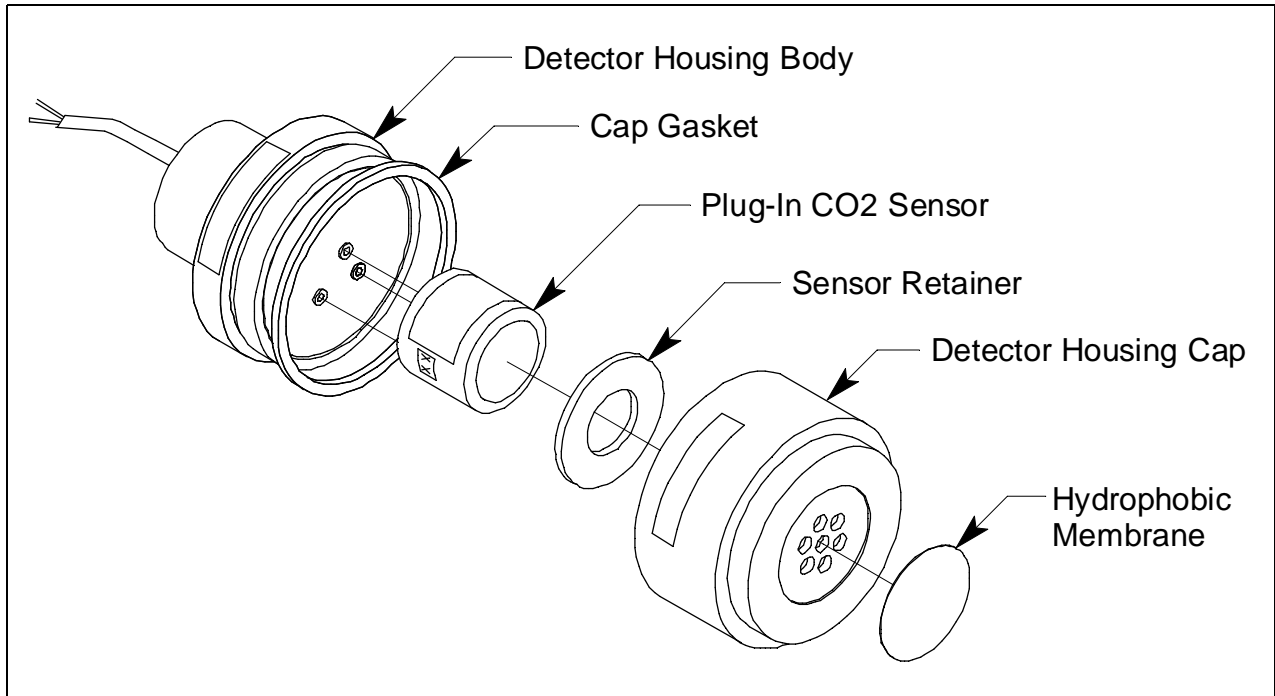

Figure 2: CO₂ Detector Component Location
2. At the monitoring site you select, hang or mount the junction box with the detector facing down (see Figure 2).